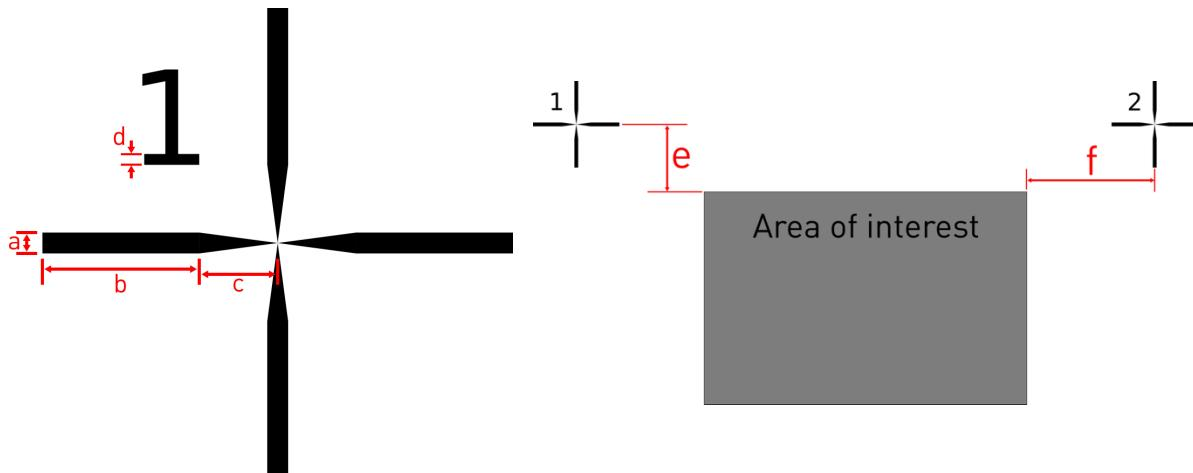

Figure 44 - Design rules. Left: focus on an alignment cross and its key dimensions. Right: cross positionning over the substrate
- Two alignment crosses surrounding the area of interest (Figure 44 right). For each design, the crosses must be at the same relative position
- Add a unique number to each cross (Figure 44 left) to avoid bad substrate orientation
Tableau 1 - Suggested dimensions for the design in Figure 44